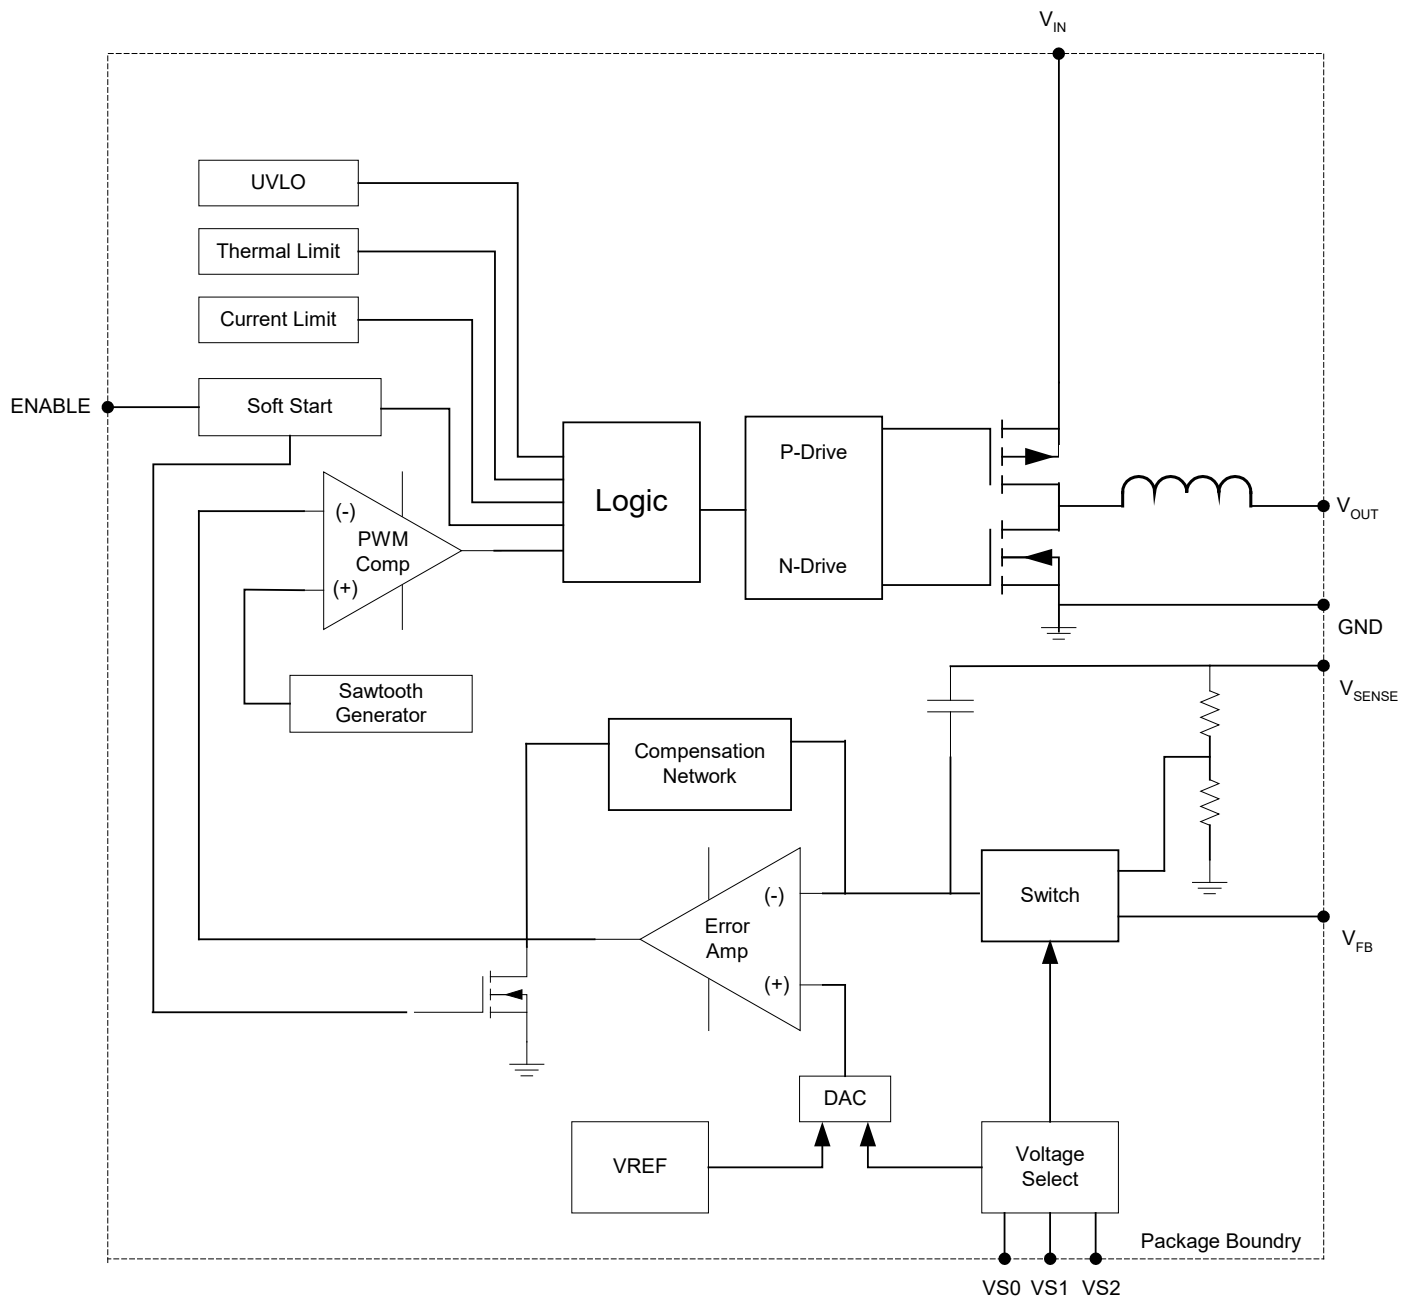

Figure 4: Functional Block Diagram
**Recommendation 8:** Keep  $R_a$ ,  $C_a$ , and  $R_b$  close to the VFB pin (see Figures 4 and 5). The VFB pin is a high-impedance, sensitive node. Keep the trace to this pin as short as possible. Whenever possible, connect  $R_b$  directly to the GND pin instead of going through the GND plane.